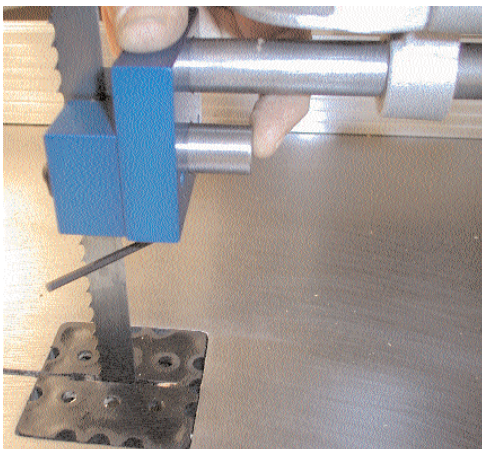

Fig. 12
14. Loosen the back blade guide screw and move it forward until it just touches the blade. Tighten the guide in position. See Fig. 12.